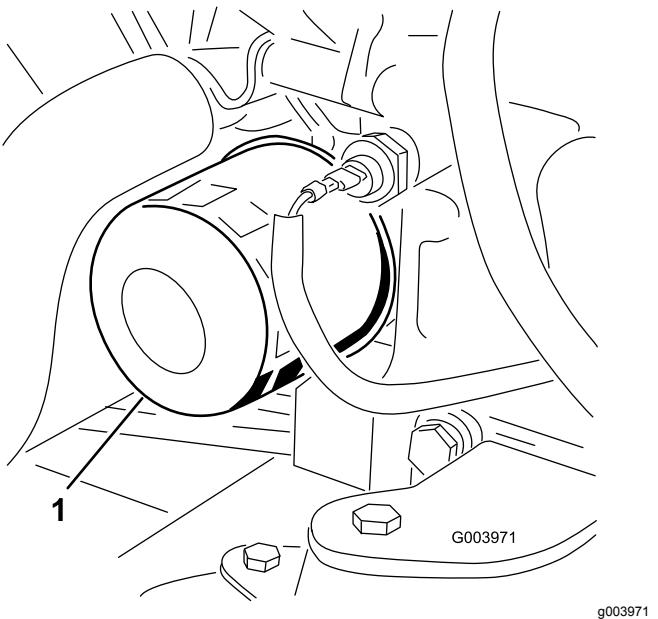

Figure 51
3. Remove the oil filter (Figure 51).